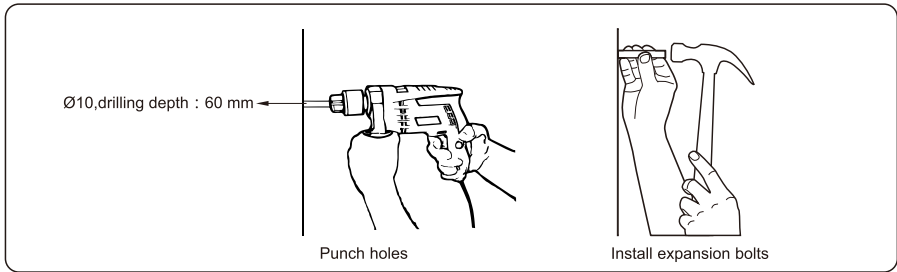

Figure 4.12 Punch holes and install expansion(unt□mm)
Step 4 Drill holes using a hammer drill and install expansion bolts, as shown in Figure 4.12.